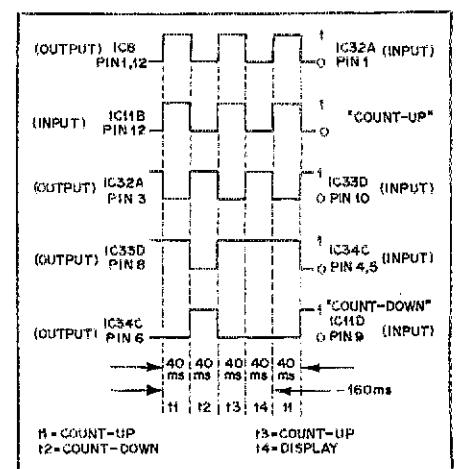

Fig. 1 — Time duration and sequence of operation for the counting and display functions of the SB-650.
an "UP-DOWN-UP DISPLAY" sequence. Inspection of the SB-650 instruction manual circuit diagram shows that the UP-DOWN counter (IC12-17) is controlled by the presence of a high "1" enable voltage applied to the counter multiplexer circuit at either the IC11B (UP) input or IC11D (DOWN) input. A further inspection of the circuit shows that the proper time duration and sequence of enable voltages are available at IC32A, pin 1 (count up) and IC34C, pin 6 (count down). Fig. 1 shows the time duration and sequence of operation for the counting and display functions.